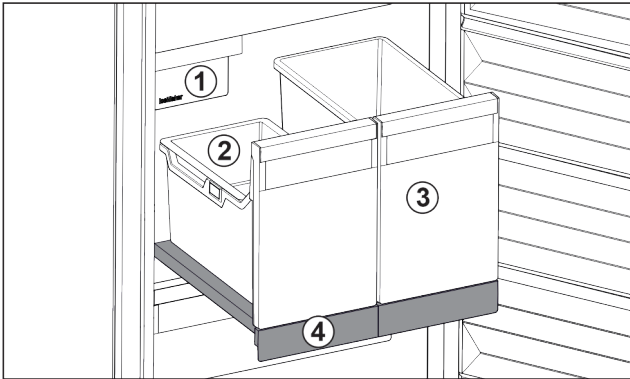

Fig. 24 Pull-out board with IceTower
There are two high (IceTower) containers on the pull-out board. Ice cubes from the IceMaker are collected and stored in the Fig. 24 (2) container. The container Fig. 24 (3) is suitable for storing tall foodstuffs or beverages such as pizzas or alcoholic drinks.